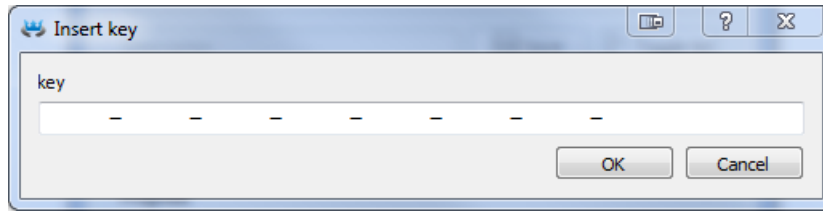

Figure 3.4: Insertion of a Licensing Key
*I already have a licence:* Select this option if you already have a valid licence and you want to submit a licensing key into target device (figure 3.4).